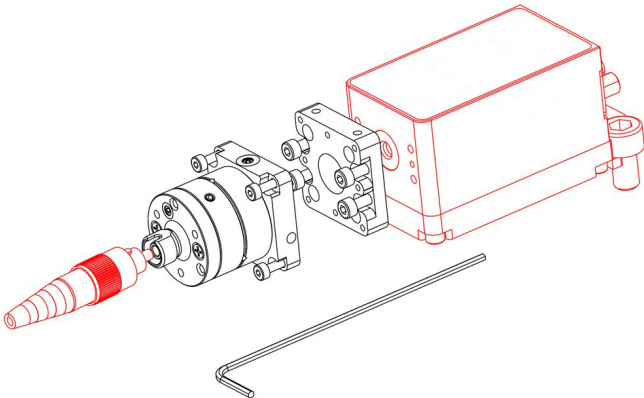

Figure 1.1: explosion drawing
2. Attach the fiber coupler to the laser module (see fig. 1.1).